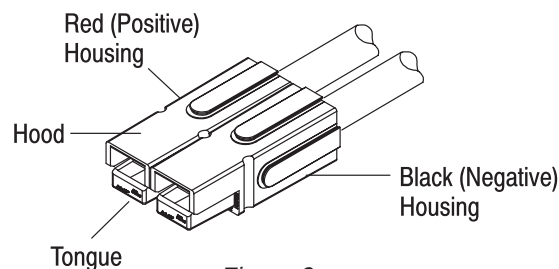

Figure 9
Standard direct current (DC) connectors recommended by the Radio Amateur Civil Emergency Service (RACES) must be stacked as shown in Figure 9. Red (as positive) and black (as negative) are the recommended housing colors.